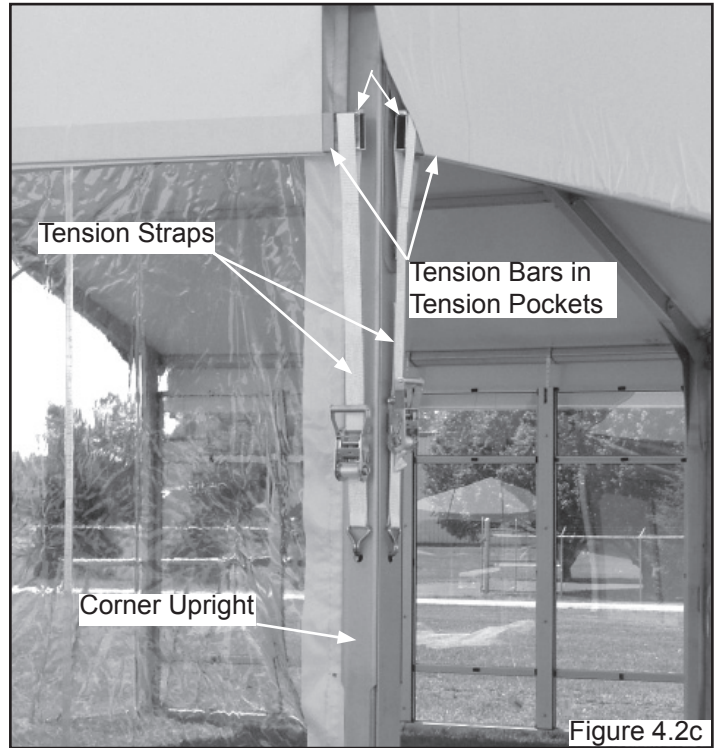

Figure 4.2c
- 4.2.3 Insert tension bars into tension pocket at bottom of gable end. Insert tension bar connector between tension bars and through tension strap loop. Insert tension bar corner connectors at corners. See **Figure 4.2c**. Tension fabric until it is tight. Make sure the bottom pocket line on ends are level. Add and/or release tension as necessary to adjust.